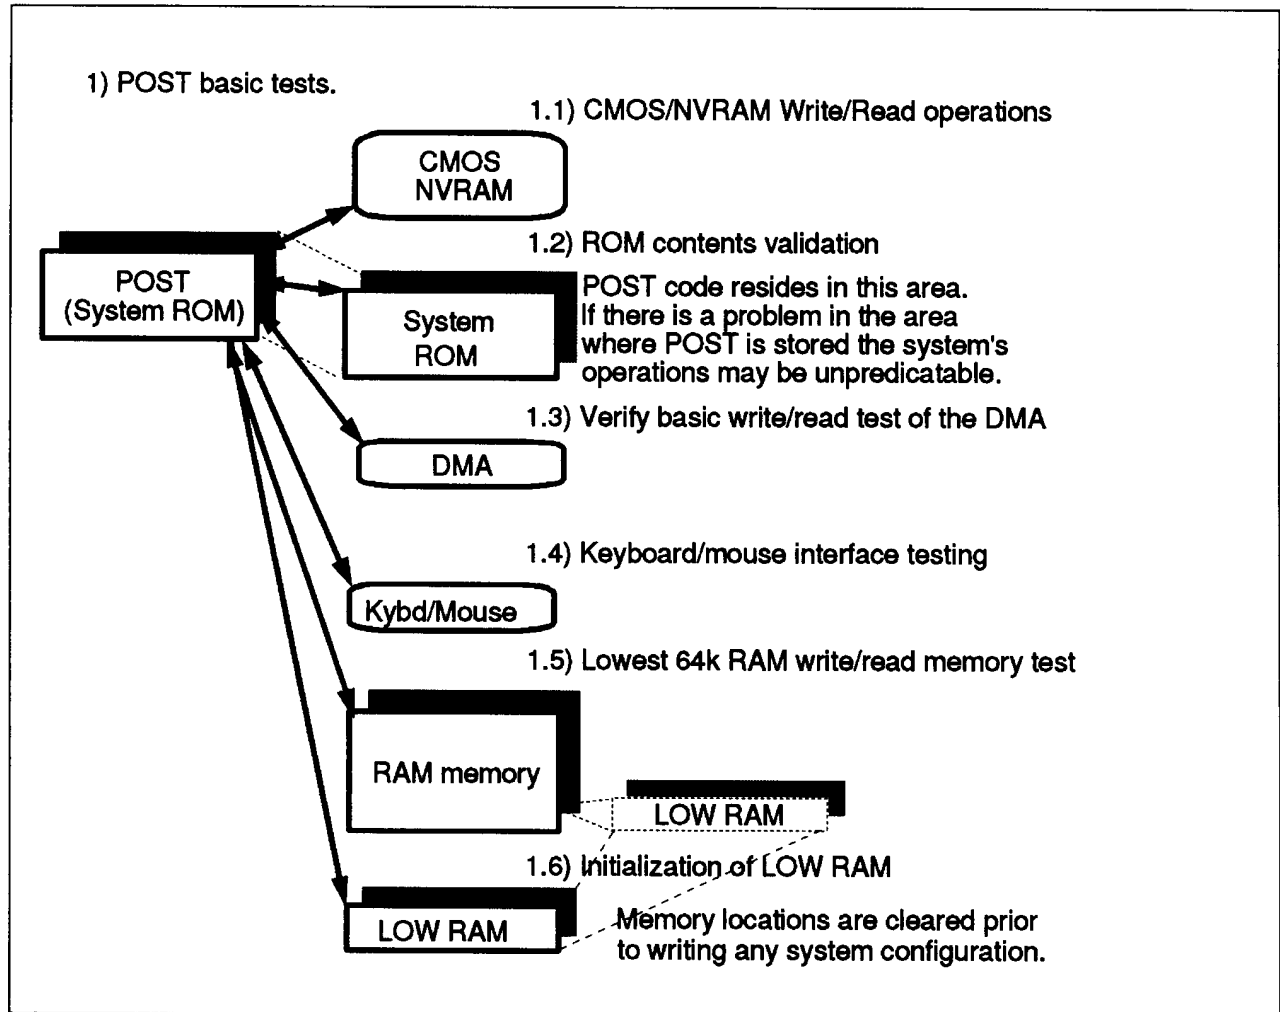

Figure 8-4. POST Basic Testing
- CMOS basic operation tests — see Figure 8-4 on page 8-10, item [1.1]
- ROM checksum test — see Figure 8-4 on page 8-10, item [1.2]
- DMA initialization and register tests — see Figure 8-4 on page 8-10, item [1.3]
- Keyboard mouse controller initialization — see Figure 8-4 on page 8-10, item [1.4]
- Test bottom 64KB of memory — see Figure 8-4 on page 8-10, item [1.5]
- Initialize LOW RAM area of memory — see Figure 8-4 on page 8-10, item [1.6]
POST performs the tests shown in Figure 8-4 on page 8-10.
Besides the tests shown in Figure 8-4, the following tests are also performed: